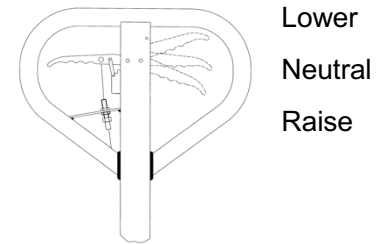

Fig. 10: Lever
- If the forks do not descend when the control handle is in the **Lower** position, turn the adjusting nut clockwise until raising the control handle lowers the forks. Then check the **Neutral** position according to fig. 10 and be sure that the adjusting nut is in the proper position.